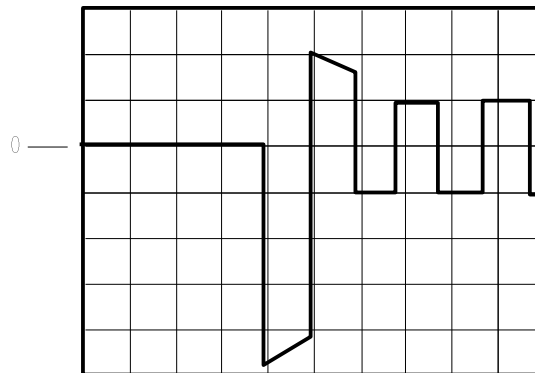

Figure 1
- 6.2.10** Waveform on scope (AGATE) should look like the figure 1 below **(NOTE: the actual frequency of the "back porch", or the part of the waveform that follows the initial negative spike, will be set by the FGPA card and is not affected by the frequency adjustment of the fixture. The factory test pattern here shows approximately 25KHz, and the GEI-100223 manual for the FGPA card lists approximately 33KHz, so anything in between the two should be fine. The frequency adjustment of the fixture pertains to the 60Hz [16.6mSec] pulse of the optical drivers. @ 50% duty cycle, each gate should be turned on for 8.3mSec each. See photo 8.3 for clarity):**